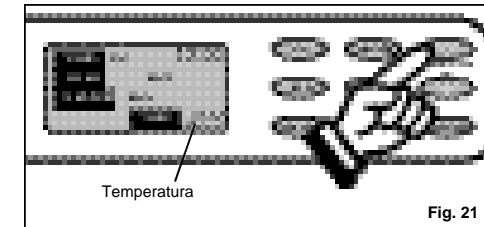

Fig. 21
2) Press the appropriate  $\Delta$  or  $\nabla$  key to select a suitable temperature between 17°C (63°F) to 30°C (88°F). *Fig. 21*.